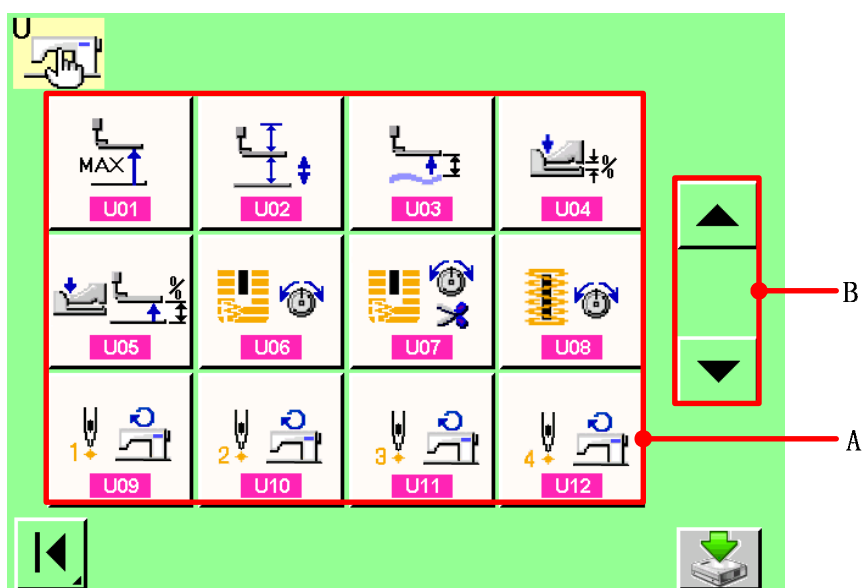

figure 11.2
- 2 Press button  and the <user parameter 1> screen is displayed. Press button  and the <user parameter 2> screen is displayed. See figure 11.2.